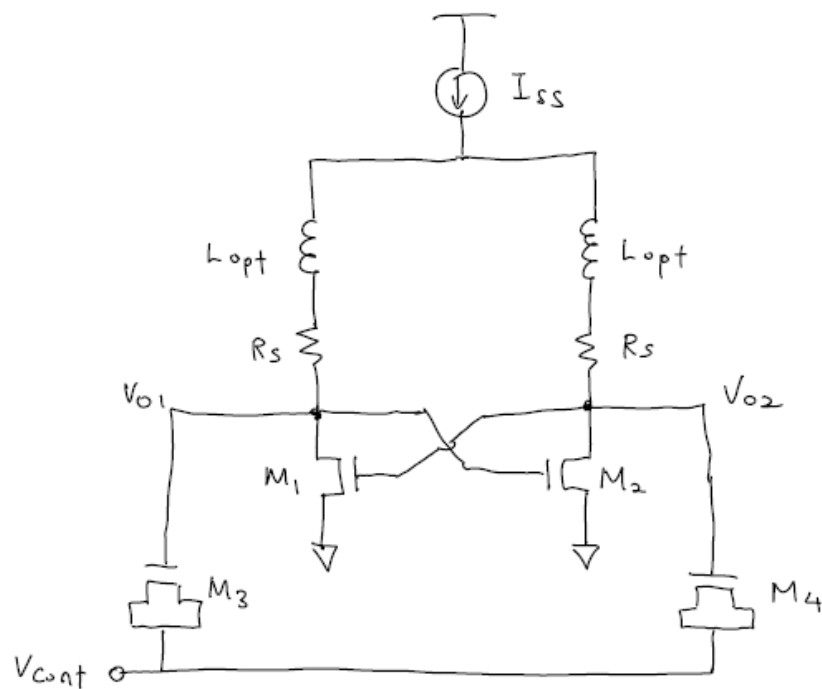

Fig.1 – LC VCO
1. Design the LC VCO in Fig. 1 to give an oscillation frequency of 1Ghz around the middle of the VCO tuning range.